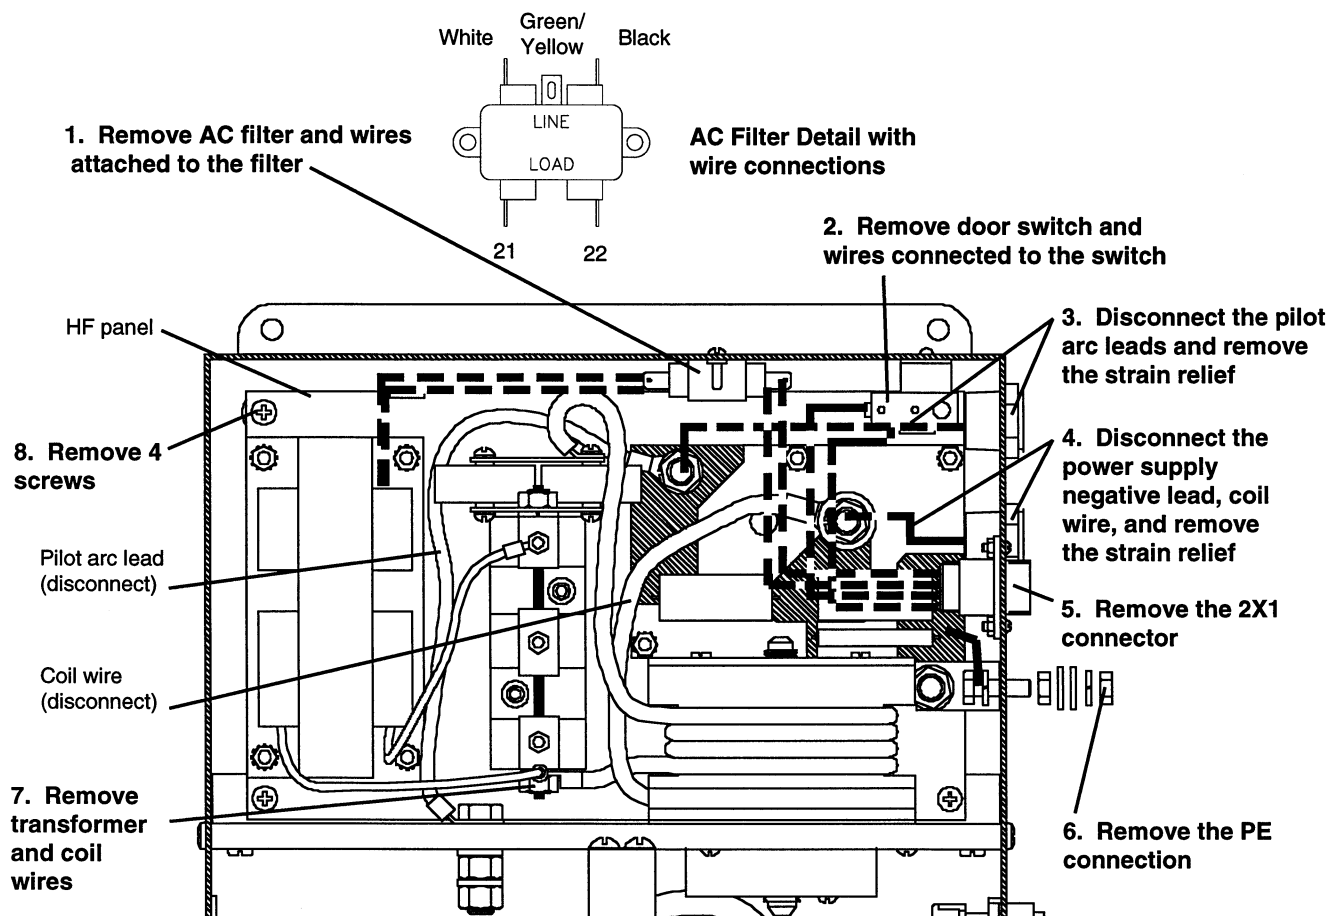

Figure 1 Disconnect the HF Panel from the RHF Console
1. Reverse directions starting at page 5 to replace and reconnect the HF panel to the RHF console. **Be certain that all wires are reconnected to the correct locations!** See Figures 1 and 2 to reattach leads and wires.